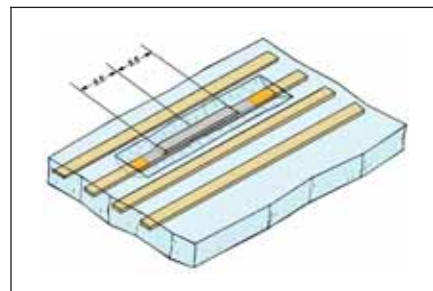

Figure 4 Conductor hairline crack repair.
- For a hairline crack, the repair will consist of a lap replacement with no original conductor material removed. (See Figure 4.)